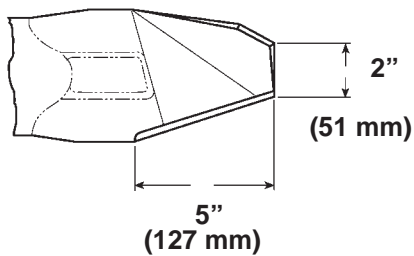

Figure 27
**Note:** Do not grind the blade more than 5 in. (127 mm) from the outside ends and no less than 2 in. (51 mm) from the trailing edge (Fig. 27).